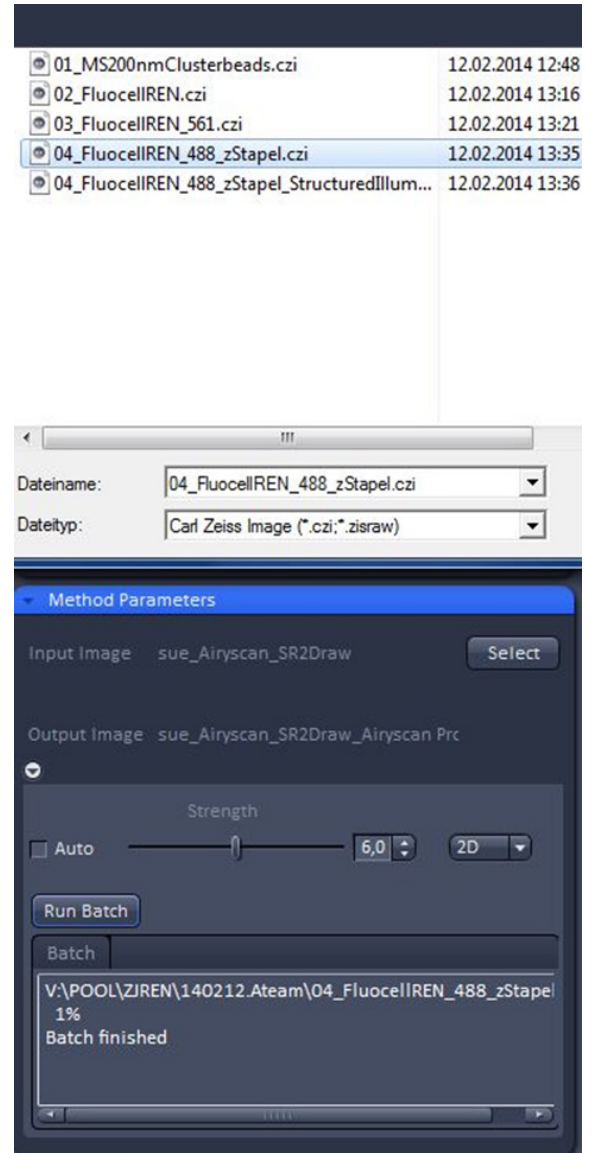

Fig. 396 Airyscan Processing tool:
- For batch processing press the **Run Batch** button (Fig. 396) and select the respective directory and files from the file selection window which opens at the top.